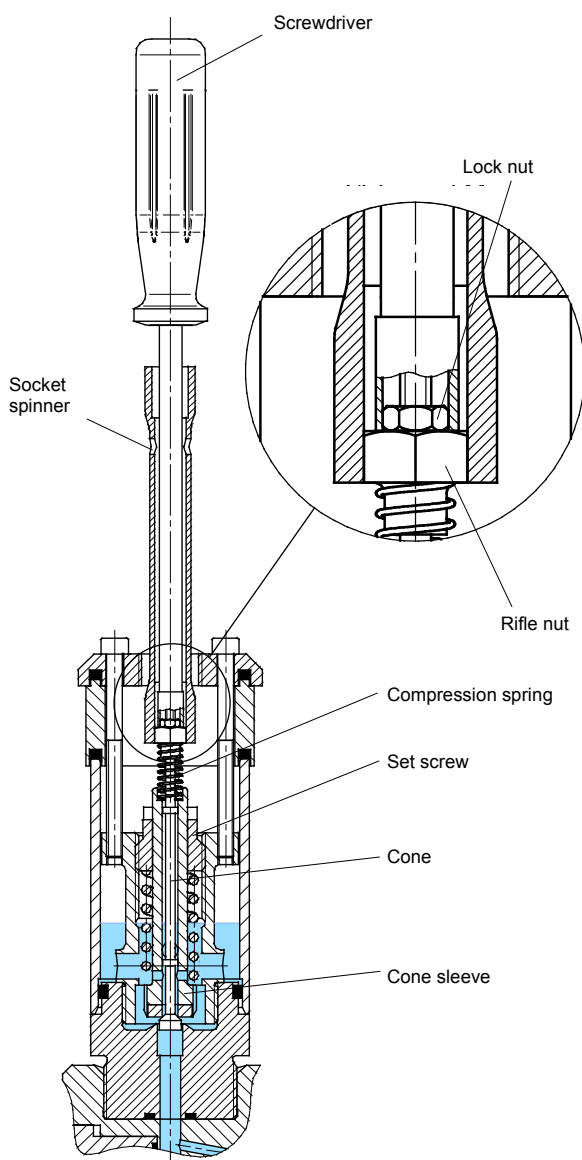

Fig. 55
- Put smaller socket spanner through bigger socket spanner, loosen lock nut and remove socket spanner (see Fig 55).